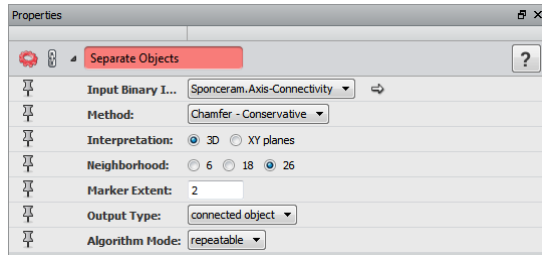

Figure 24.8: Separate Objects Module Configuration
6. Apply a *Separate Objects* module on the output of the *Axis Connectivity* module. Set the Marker Extent port value to 2 and the Output Type port to *connected object*. In this example, we keep the default method (Chamfer - Conservative) since the pores are mostly spherical (see Figure 24.8).